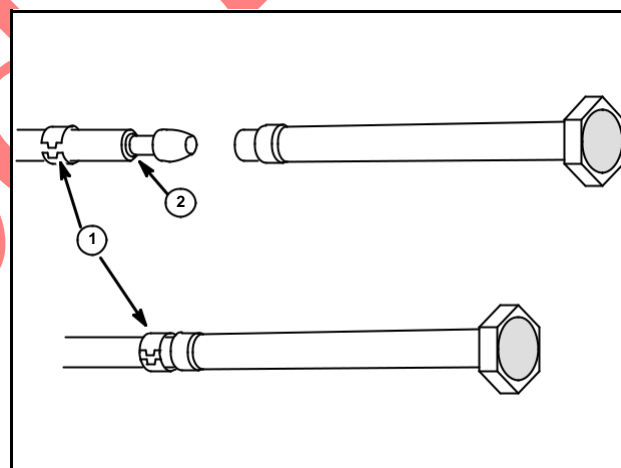

Fig. 87
Slide new retainer clip (1) onto brass pipe. Heat small end of new nylon tube in hot water and push onto brass pipe. Slide retaining clip onto nylon tube over groove (2) on brass pipe, Fig. 87.